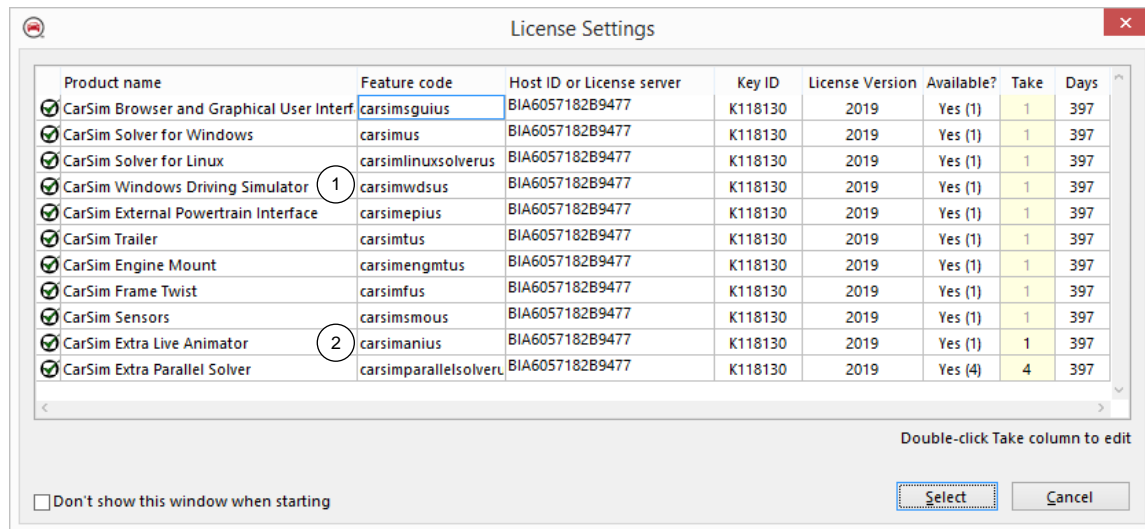

Figure 48. License Settings with License Features checked for Windows DS and Live Animator.
2. Open the **License Settings** window (**Tools > License Settings**) and make sure that the license option “Extra Live Animator” is checked (Figure 48, ①, ②).